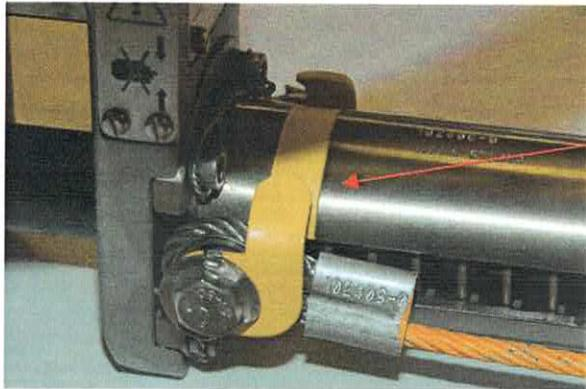
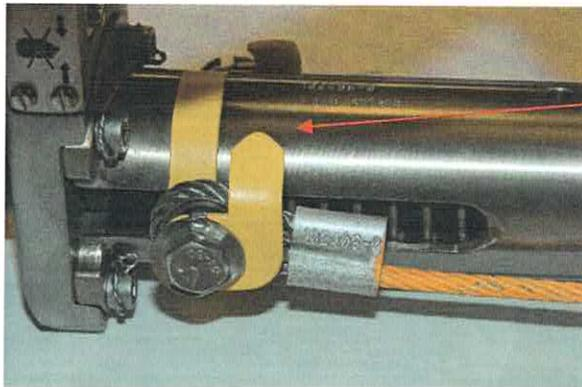
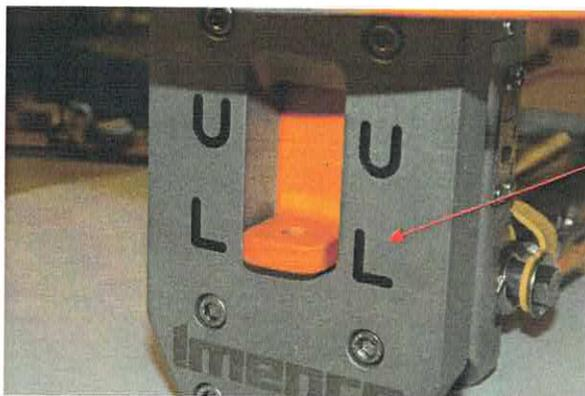

Fig. 7.4
Fig. 7.5
Fig. 7.6
4. A visual check **MUST** be made at this point to ensure that the yellow pin indicator (arrowhead) is in alignment with the yellow strip marker on the spring housing (see fig. 7.4). If the yellow arrow and the yellow strip are not in alignment (see fig. 7.5) this may be due to the locking plate being lowered to locked "L" position prematurely – thus not allowing the pin to fully engage (see fig. 7.6).